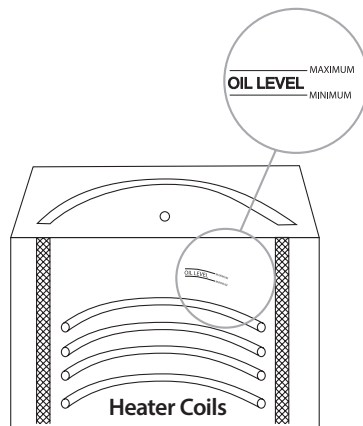

FIGURE 4
5. **Add Cooking Oil** - Liquid or solid cooking oil may be used. Melt solidified cooking oils in tender or other means and pump into fryer. Add enough cooking oil to raise liquid to within one inch of Minimum oil level line (see Figure 4, page 13). As oil heats, it expands. Check level again once oil has heated to verify that level is between Minimum and Maximum marks.
Fire or heater damage may occur when heaters are turned ON unless they are fully covered with cooking oil. >>Do not turn on power unless all heater coils are completely covered by cooking oil. Fill shortening to a level between the Maximum and Minimum oil level lines found on the inside of the cookpot (see Figure 4).
16. Oil Level - Add or remove cooking oil so that it is at a level between the Maximum and Minimum Level marks. (Figure 4).